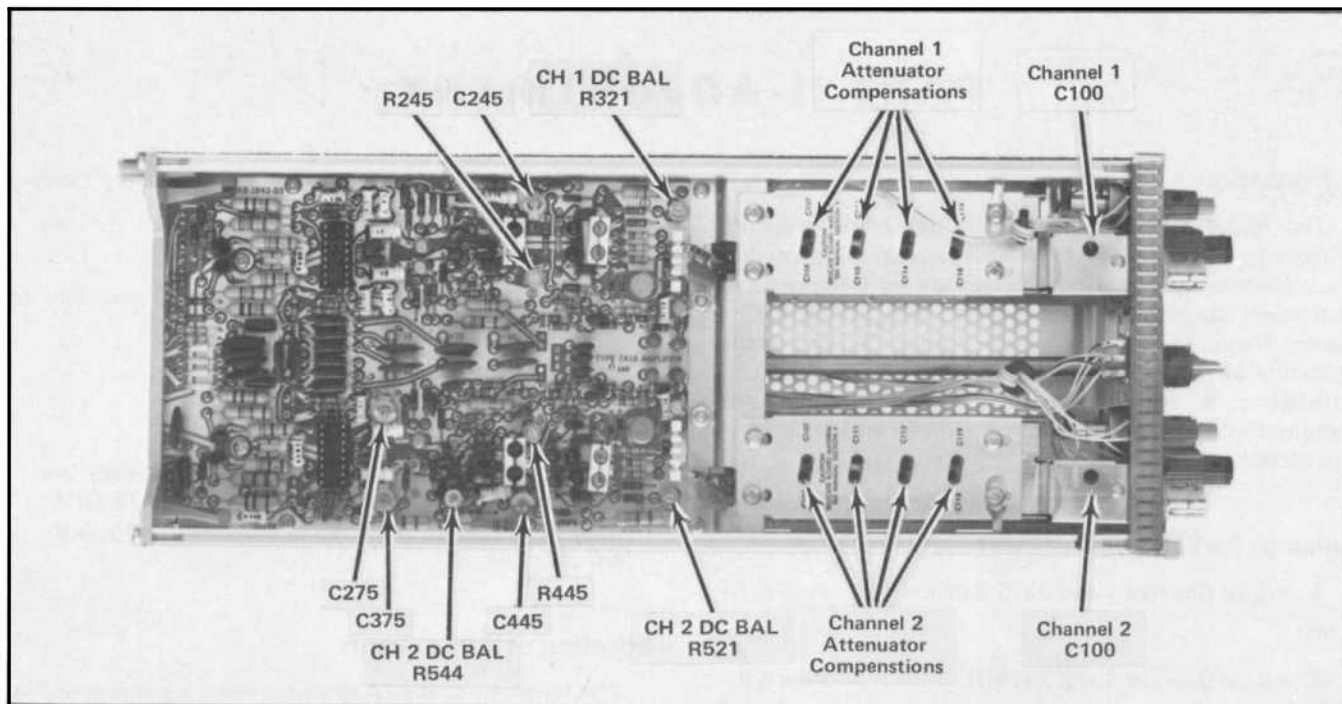

Fig. 5-1. Locations of adjustments used in this procedure. (7A18 shown.)
The locations of the 7A18 adjustments are shown in Fig. 5-1.
ADJUST—DC BAL (see number 5, Fig. 5-1) for no trace shift while switching CH 2 POLARITY switch from +UP to INVERT.
k. ADJUST—CH 2 VARIABLE DC BAL (R544, see number 9, Fig. 5-1) for minimum trace shift as the CH 2 VARIABLE control is rotated from fully counterclockwise to fully clockwise.